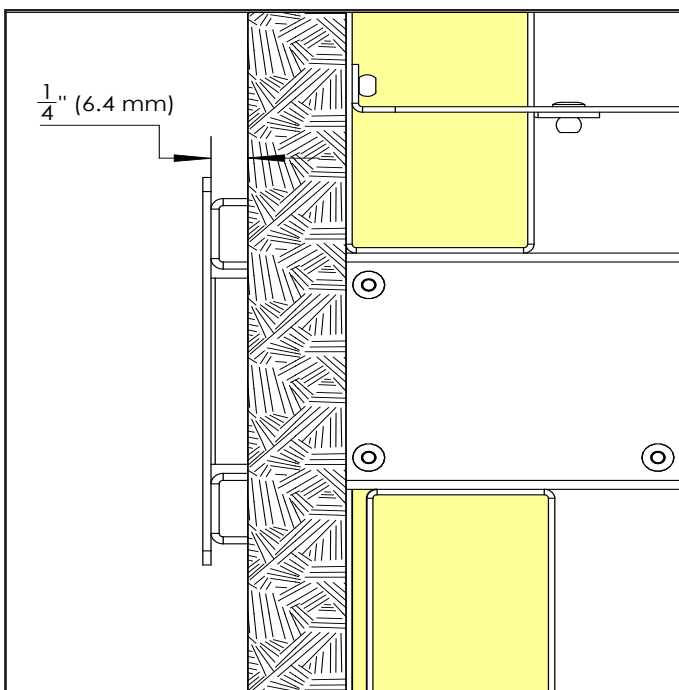

Figure 19. Outlet Trim Bezel - Standoff
Step 9: Finally, install the Outlet Trim Bezel by sliding it into the outlet until the backside contacts the finished wall surface. Next, re-install the two (2) screws removed in Step 2 to secure the Outlet Trim Bezel in place. When installed correctly there is a 1/4" (6.4 mm) standoff between the back side of the Bezel and finished wall (Figure 19).